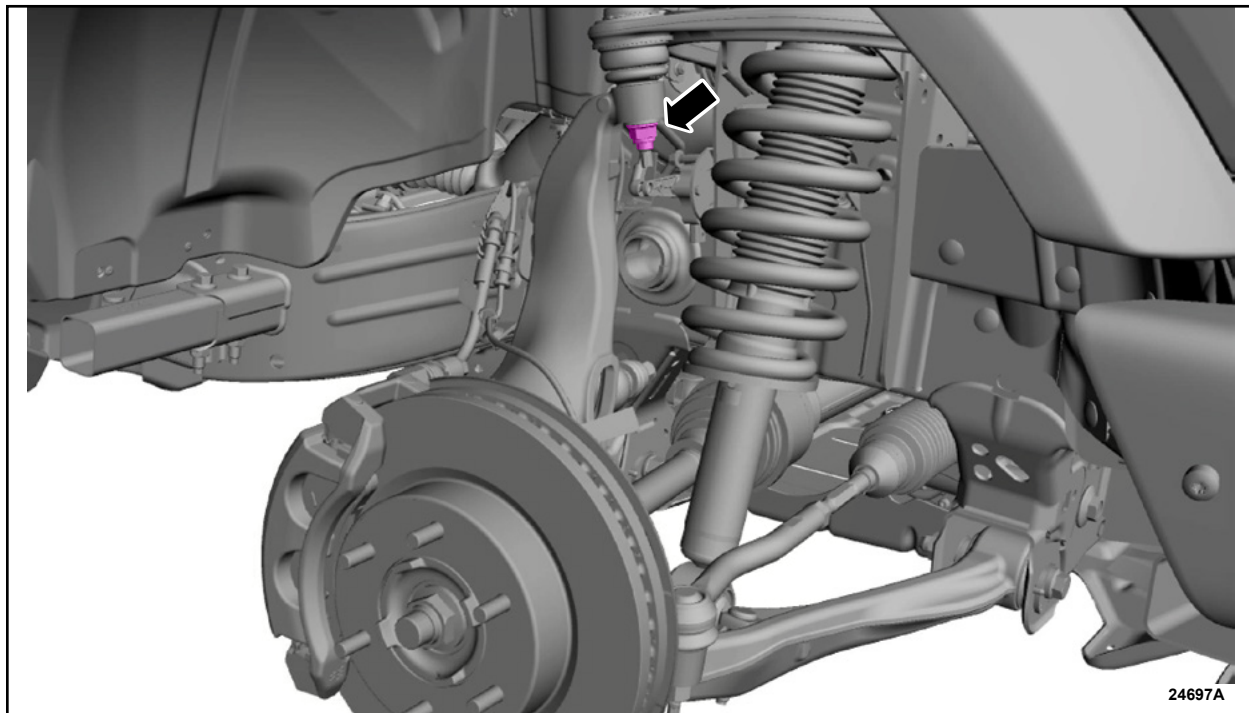

FIGURE 1
3. Inspect both upper ball joint nuts. Are both upper ball joint nuts present? See Figure 1.